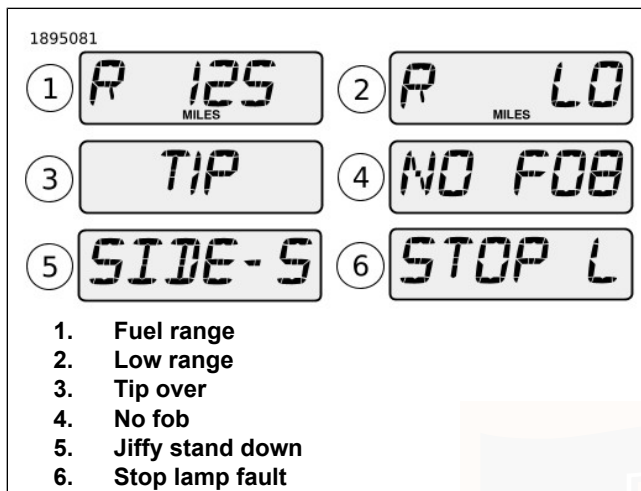

Figure 29. Odometer Window Displays
See Figure 29. The fuel range display (1) shows the approximate mileage available with the amount of fuel left in the fuel tank.
See Figure 29. After the fuel range drops to approximately 10 miles or 10 kilometers remaining, the fuel range display will scroll "R LO" (2) to indicate that the motorcycle will shortly run out of fuel.
See Figure 29. Should motorcycle be tipped over, the word "TIP" (3) appears in the odometer window. The engine can not start until reset.
See Figure 29. If the motorcycle is driven off leaving the fob behind, "NO FOB" (4) temporarily displays in the odometer window.
See Figure 29. On international (HDI) models, a "SIDE-STAND" (5) message will scroll across the display if the motorcycle is placed into gear while the jiffy stand is down. See BEFORE RIDING > OPERATING JIFFY STAND (Page 52).
See Figure 29. A "STOP LAMP FAULT" (6) message will scroll across the display if the stop lamp switch is not operating.